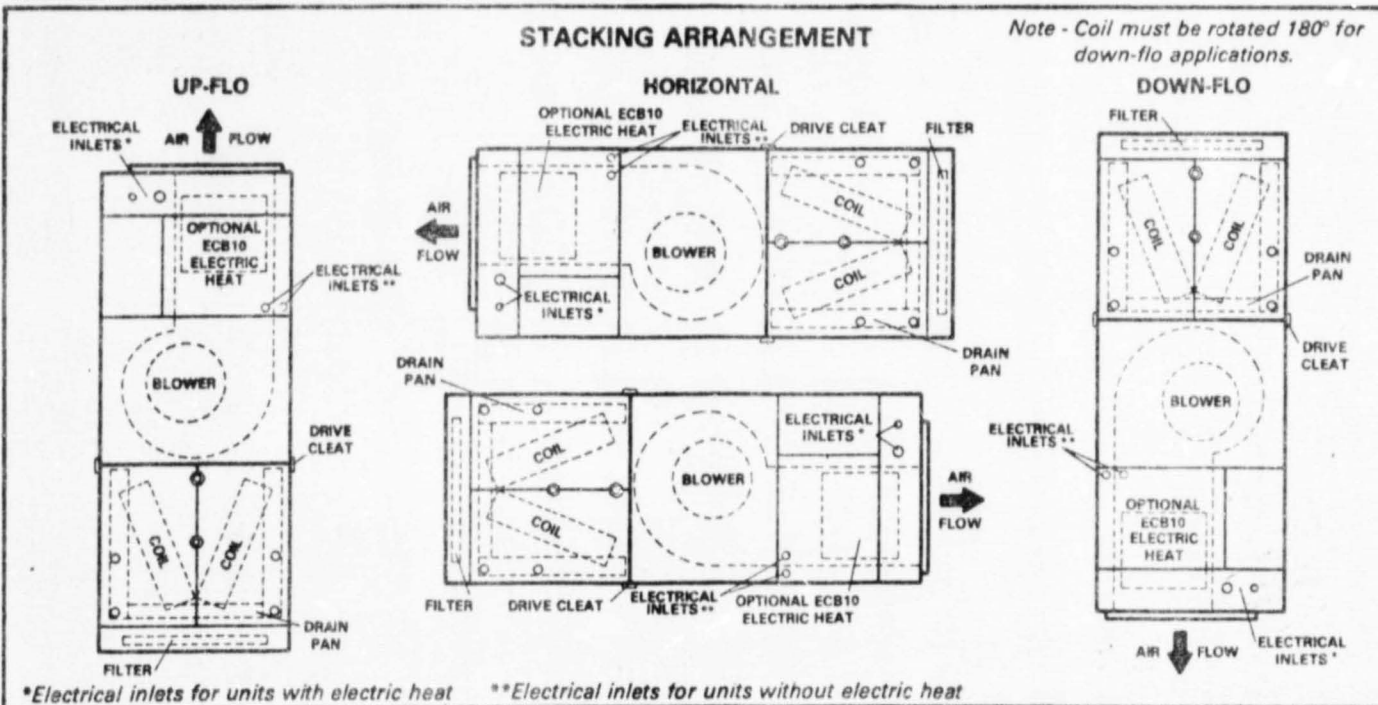

FIGURE 1
These units are designed for indoor installations only. CBP10 units are designed for installation with matching HP10 heat pump units. Units may be installed for up-flo, down-flo or horizontal air discharge. Refer to Figure 1 for stacking arrangement. Units are intended for use with specific Lennox sections of heat pumps.
See Figure 1 for stacking arrangements for up-flo, down-flo and horizontal air discharge. **NOTE** - For some applications blower motor must be rotated so oilers are positioned up.
- 4 - Remove (2) front access panels from coil cabinet and slide coil/drain pan assembly from cabinet. Rotate cabinet 180° and slide coil/drain pan assembly back into cabinet. Refer to Figure 1 for position of coil in down-flo applications.